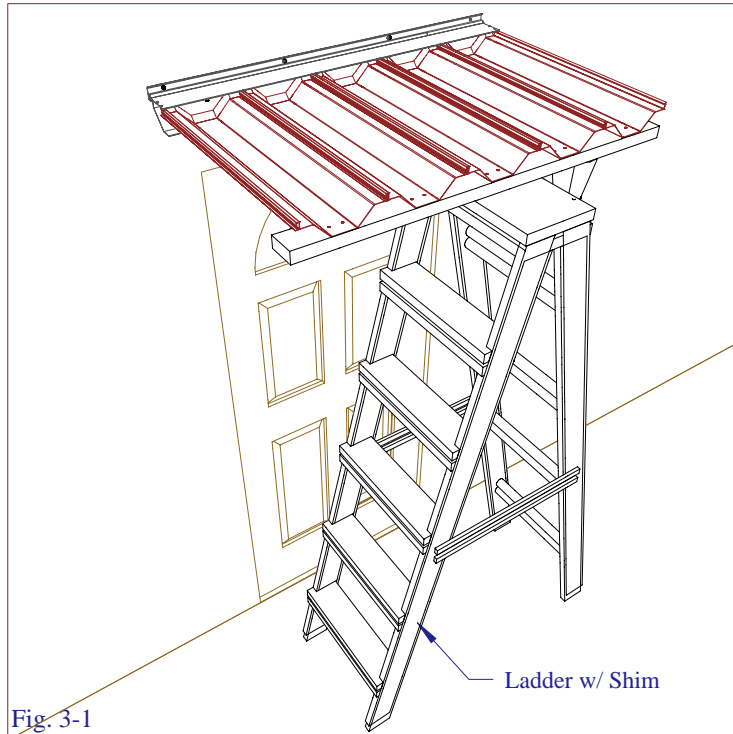

Fig. 3-1
- Use a ladder with any type of shim to support the front of the roof panels while the rear half is attached to the wall channel (see Fig 3-1).